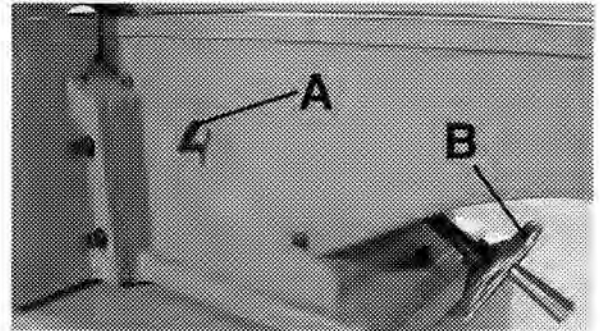

FIGURE 22
2. Loosen locking screw (A) Fig. 22, and turn handwheel (B). When the outfeed table is exactly level with the cutterhead knives at their highest point of revolution, tighten screw (A).